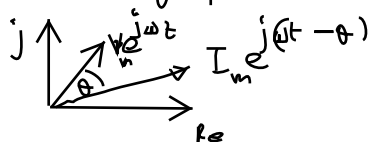
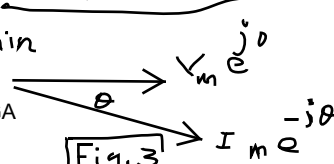

Fig. 2 Rotating Vectors (time domain)
Fig. 3
- At  $t=0$ , the rotating vectors would occupy the position shown in Fig. 3 above.
- The rotating vectors above in Fig. 2 form two phasors as in Fig. 3.